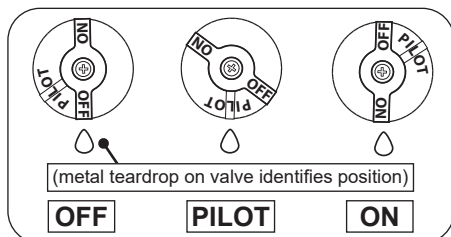

Fig. 24-1 Gas control knob
2. Locate the valve on the unit. Push in the gas control knob slightly and turn clockwise ↻ to **OFF** (Fig. 24-1).
4. Turn the control knob counterclockwise ↺ to **PILOT**. Push the knob **firmly and fully** in and hold. Push the piezo igniter button several times until the pilot lights. Continue to hold the knob in for about one (1) minute after the pilot is lit. Release the knob and it will pop back out. The pilot will remain lit. See Fig. 24-1 and 24-3. If it goes out, repeat steps 2-4. Alternatively, a long-stem match/ long-necked butane lighter can be held near the thermocouple to light the pilot.
1. Ensure the pilot is burning. Turn the control knob counterclockwise ↺ to **ON** (see Fig. 24-1).
To shut down the burner and pilot (total shutdown), press the on/off switch to **OFF (O)**, and push in the control knob slightly and turn clockwise ↻ to **OFF** (see Fig. 24-1 & 2).